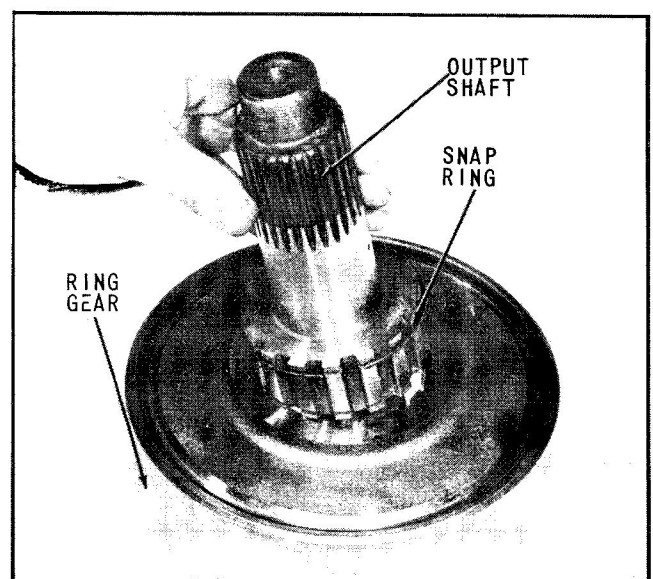

Fig. 71 Assemble Output Shaft to Ring Gear (2 to 1 Ratio)
3. Replace snap ring in rear groove of output shaft. Slide splines of ring gear hub over splines of shaft and install snap ring in front groove of shaft, (Fig. 71). Hub and shaft splines will assemble in one position only.